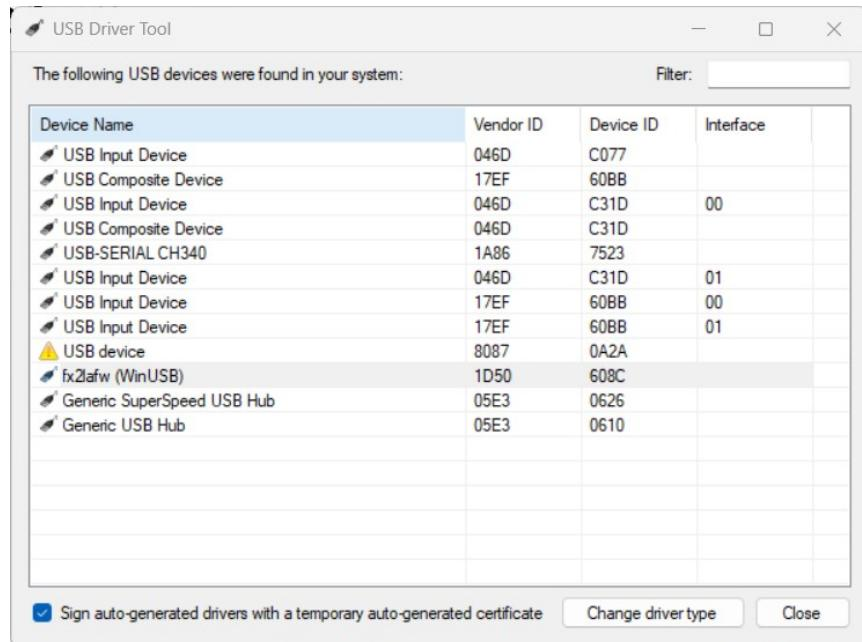

Figure 5: The USB driver (fx2lafw / WinUSB) is installed successfully and ready to use.
- **Figure 5** shows that the USB driver (**fx2lafw / WinUSB**) is installed successfully and ready for use.